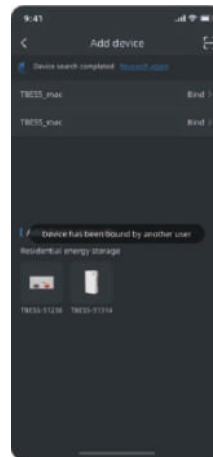

Figure 4
- 4) Figure 4: The device has been bound. Please unbind it and add it again, or contact the device owner to share the device with you.